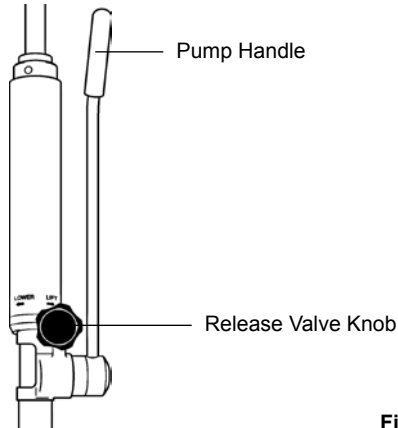

Fig. 9
6. Close the hydraulic unit release valve (Fig. 9) by turning the knurled black knob on the unit fully clockwise.
7. Pump the handle (Fig. 9) of the hydraulic unit and confirm the ram raises the boom.